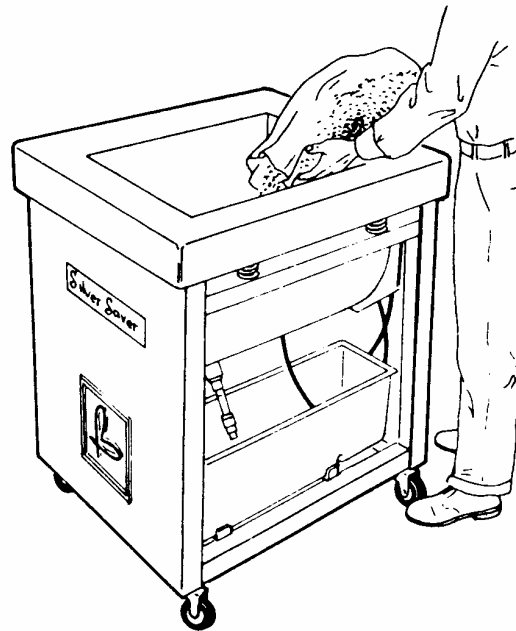

Figure 2-11. Emptying Media Bags Into Tub
9. Open bag(s) and empty media into tub (approximately two level inches below compound inlet to tub). (See fig. 2-11.)